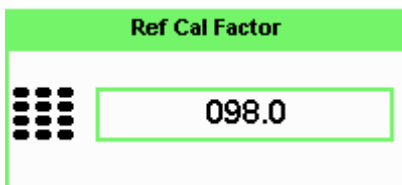

Figure 7-122 Reference Calibration Factor pop-up window
- 4 To change the settings, press the channel **REF CF**. The reference calibration factor pop up window is displayed as shown in Figure 7-122. Use the numeric keypad to enter the required value in the **Ref Cal Factor** pop-up menu.